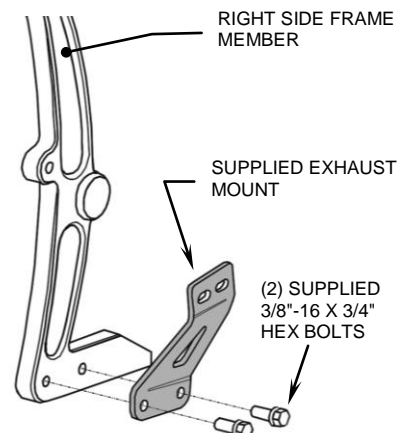

FIGURE 2
5. Install the exhaust mount bracket on the motorcycle using the two supplied 3/8" bolts. See Figure 2. **DO NOT TIGHTEN.**